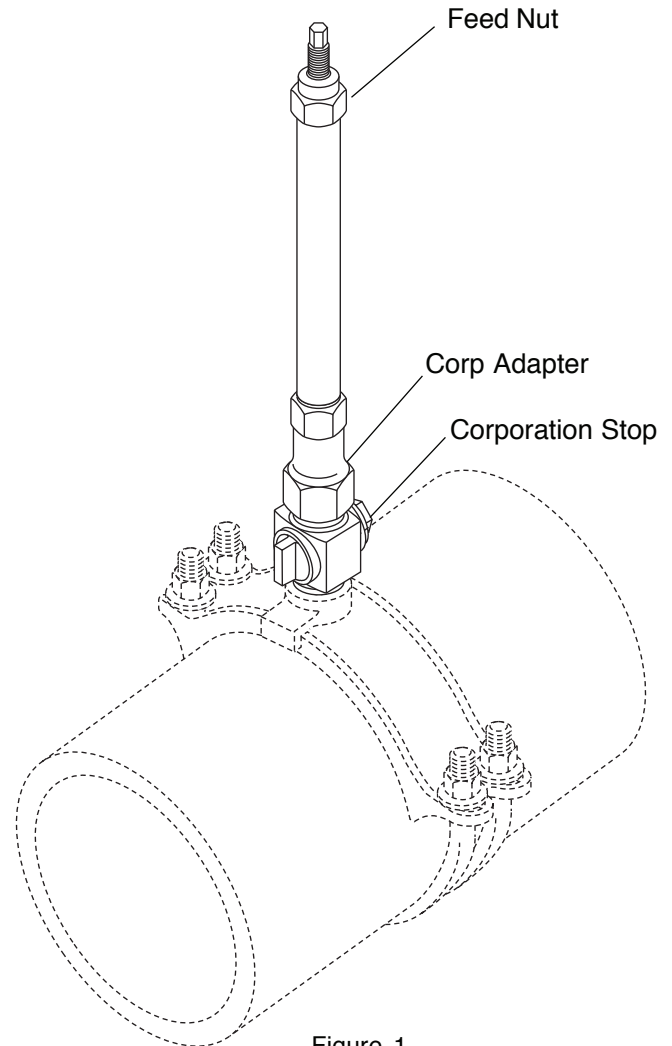

Figure 1
- B. Lubricate the boring bar and the feed screw of the machine with light oil. (See Fig. 1)